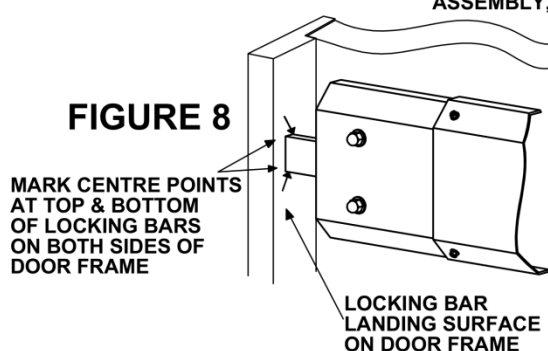

FIGURE 8
19. With door closed, activate the locking bars so that they are touching on the doorframe. Mark position of locking bars on frame. (Fig. 8)